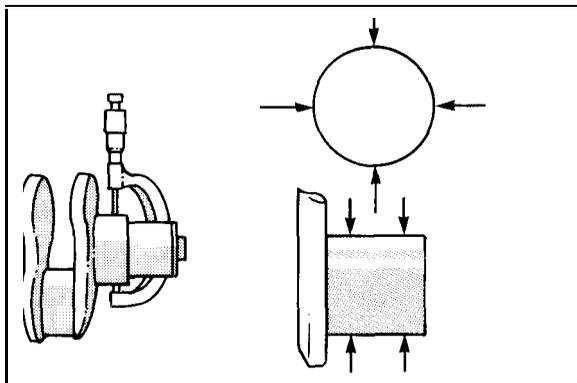

Figure 6-16
5. Measure crankshaft main journal diameters at locations shown by arrows (Figure 6-16).